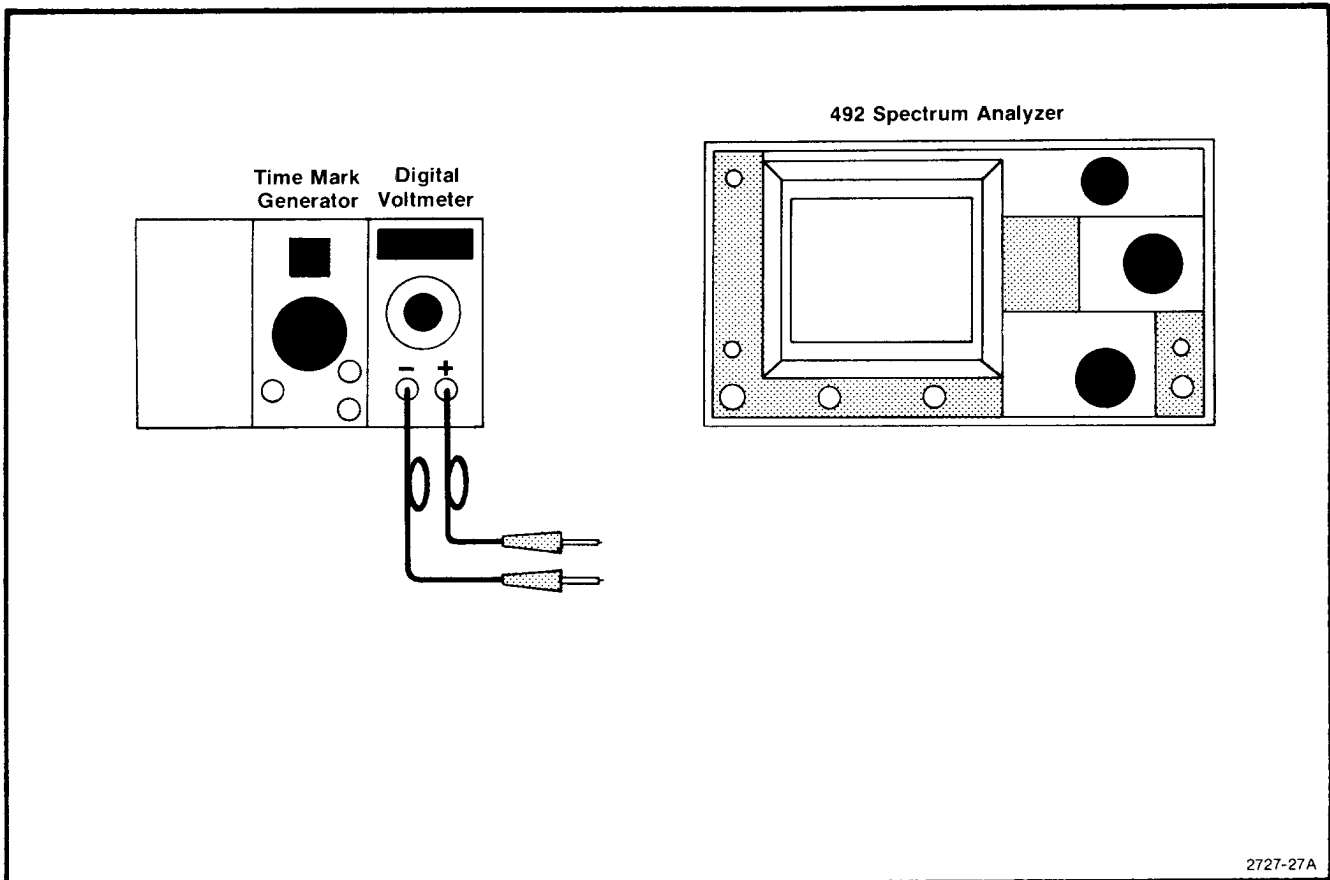

Fig. 3-30. Test equipment setup for calibrating sweep ramp for the 1st LO Driver.
1) Test equipment setup is shown in Fig. 3-30. Set the front-panel controls as follows: